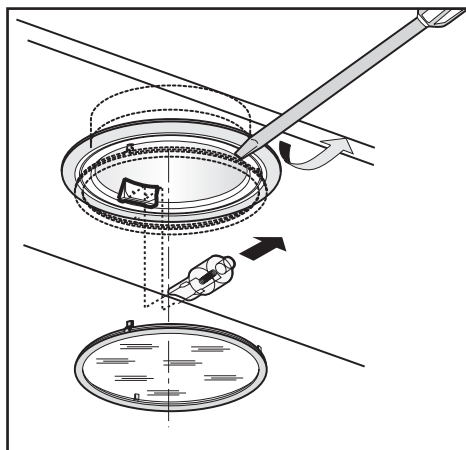

Fig.7
• Light replacement - halogen (Fig.7)